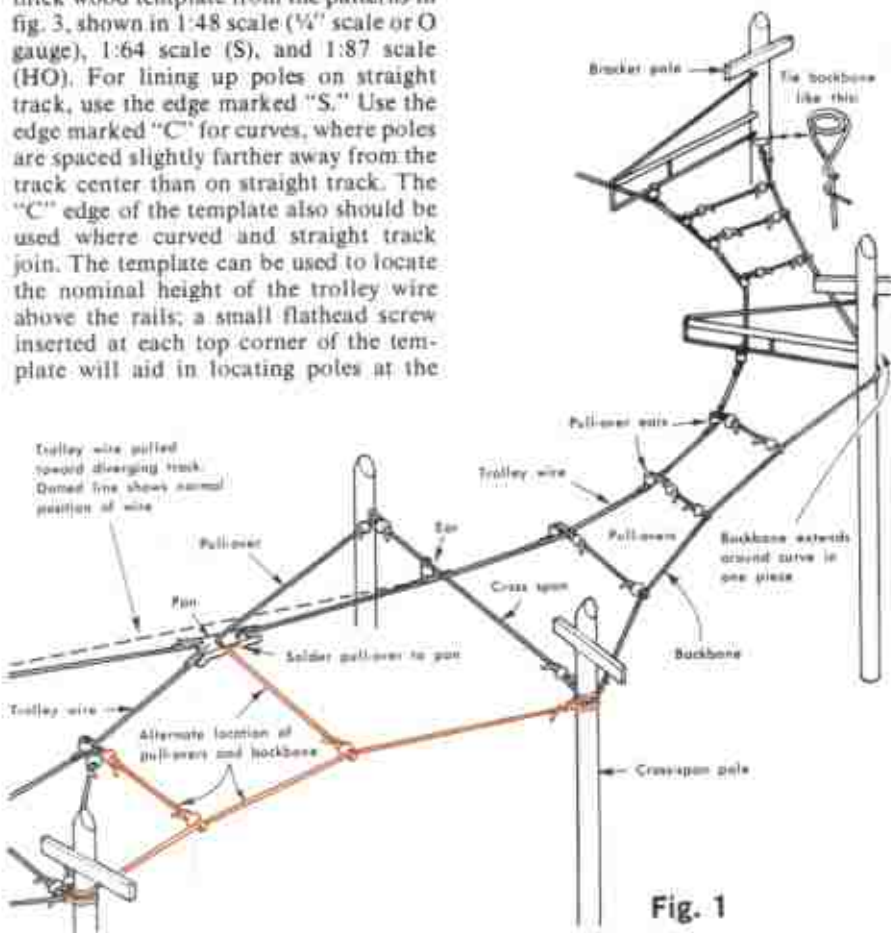
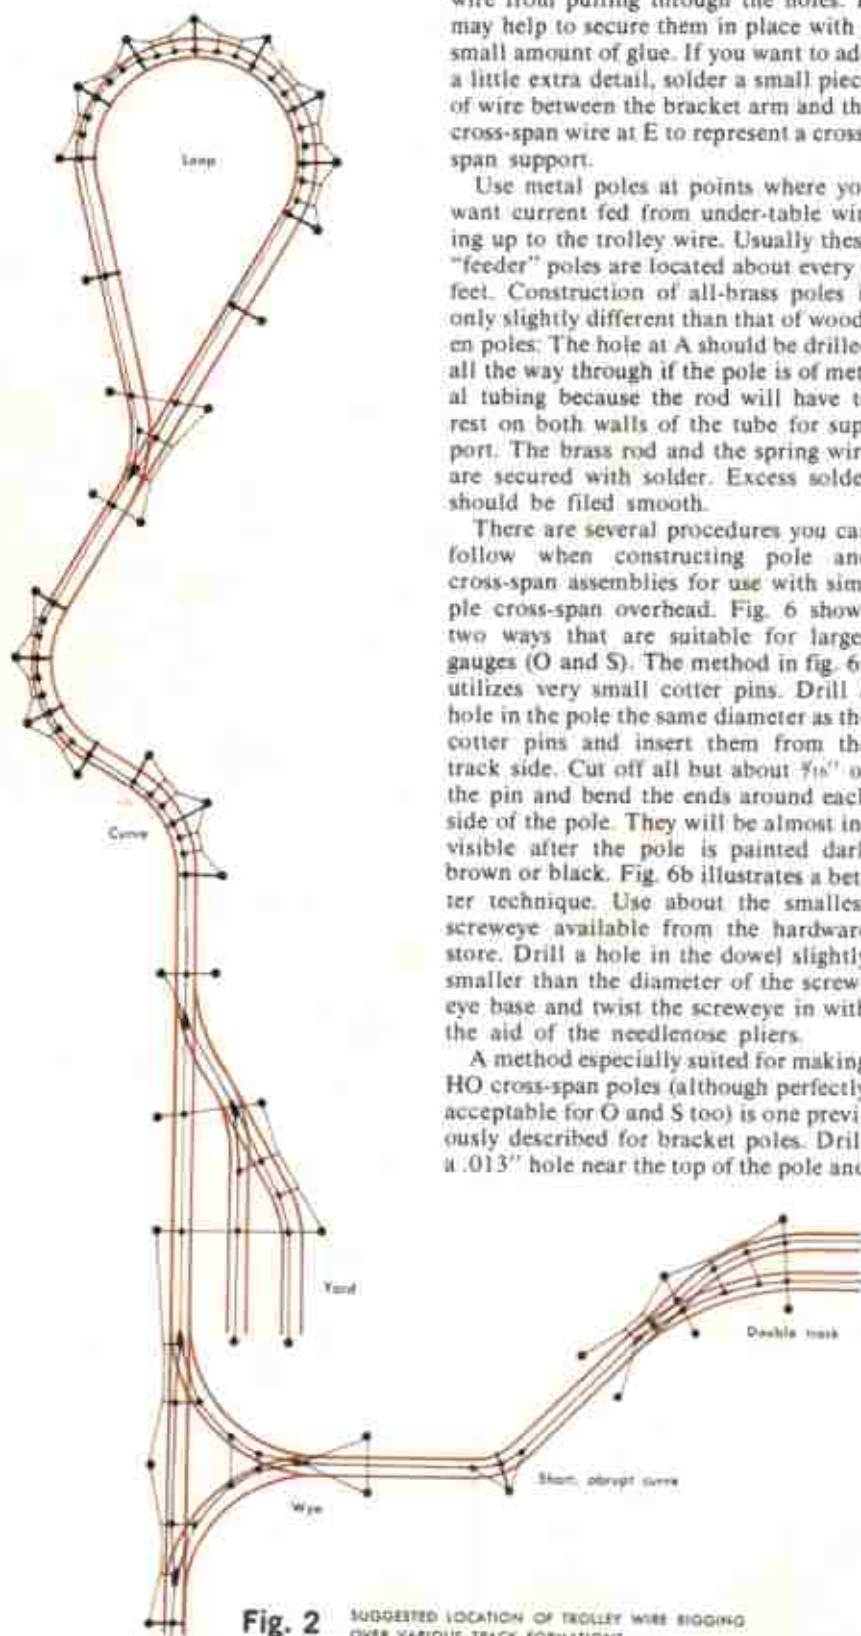

Fig. 1
Fig. 2 SUGGESTED LOCATION OF TROLLEY WIRE RIGGING OVER VARIOUS TRACK FORMATIONS
Trolley wire suspension for streetcar and interurban operation is shown in fig. 1. Two support systems are illustrated, bracket and simple cross span. The bracket type is used over single track; the simple-span suspension can be used on single or double track (although it was mostly used on double track), or in yards. Fig. 2 shows how trolley wire is positioned over various track formations. Notice how the basic wire formations shown in fig. 1 are repeated in fig. 2.
Before you begin erecting poles on your trolley line, it is a good idea to locate them on an accurate plan of the track route, using fig. 2 as a guide. Remember to position your poles carefully to properly carry the strain of the trolley wire. Determine the number of poles you will need, both with and without bracket arms.
Tie the backbones in place around all curves. The backbone, together with pull-overs and hangers, holds overhead wire in its correct position over curved track; refer again to figs. 1 and 2. Tie
one end of the backbone wire to the pole at the beginning of the curve, lead it around the curve in one piece, and tie the other end to the pole at the end of the curve. Fig. 1 shows how to tie the wire. The backbone should be just barely taut. The wire gradually will tighten itself as the pull-overs are fastened in place. On a short, abrupt curve, no backbone is necessary; pull-overs can be attached directly to the pole. Note "Short, abrupt curve" in fig. 2.
Space the pull-overs equally around curves. The number required depends on the radius of the curve, but it works out well to use an odd number if possible: 1, 3, 5, etc. The more pull-overs you use, the more the overhead wire will conform itself to the track radius. Notice that the trolley wire actually does not curve, but follows the track in short, straight segments. Refer back to fig. 1.
the hook end into the eye of the pull-over ear as shown in fig. 1. You can leave it hook-shaped, twist it several times, or secure it with a bead. A lot will depend on working space. In congested yard work, wires will be too numerous to use anything but a simple loop. Loop the free end temporarily in place on the backbone. Attach the rest of the pull-over ears and pull-overs in the same manner. Now, solder all trolley wire to the cross-span and bracket hangers, but do not solder the hangers fixed as yet.
Get one of your trolley cars and set it on the track with pole up and the shoe against the wire. As you push it along, notice how the pole is pulled over to the inside of the curve. The correct position of the wire is somewhere between the center of the track and the inside rail of the curve. It is the point at which the trolley shoe rides smoothly without coming off the wire; the point where the trolley shoe or wheel is exactly *tangent* to the wire. Locate this point at each cross span or bracket and secure the ears with a drop of solder. Now push the car along with the pole against the wire and adjust the pull-overs in similar fashion. Put a bead on the pull-over before making the final bend and follow the procedure used for span wires. You may find it necessary to lightly solder the pull-over to the backbone wire to prevent it from sliding out of position. When you have finished your curve, it should appear similar to the illustration in fig. 1. Finish soldering all straight portions of the wire, using the template to locate the wire centerline. If hung on the wire, a small meat skewer or your reverse-tension tweezers will act as a plumb line and speed up your work. Do this to all other ears.
After all mainline pans have been installed, hang trolley wire over all of your secondary track, yards, sidings, etc. Start from a turnout and work as you did on mainline overhead. Wire on a dead-end siding is tied to a pole at the end of the track as shown at "Yard" in fig. 2.
3. If a pole jumps or takes the wrong wire at a turnout, pull the wire a little off center by adjusting or adding pull-overs and backbones. See fig. 1. Moving the turnout off center may also correct this.